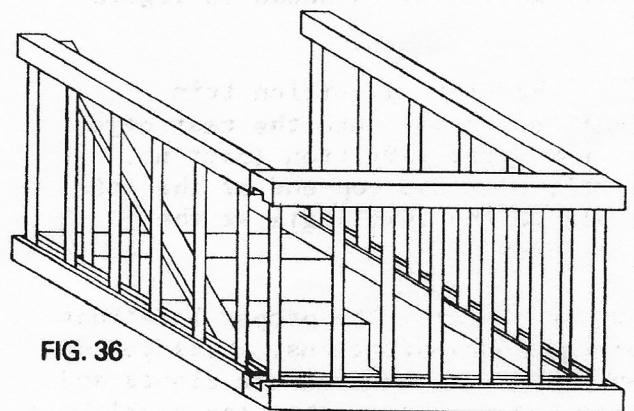

FIG. 36
8. Once the stairway glue has set, install the second and third floor stair railing sub-assemblies as shown in figure 36.